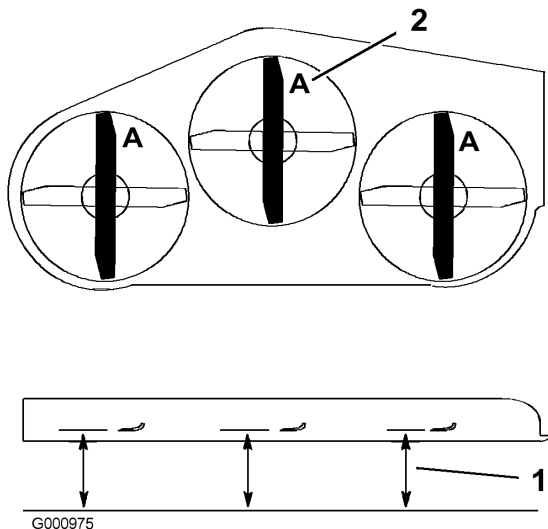

Figure 65
3. Rotate the blades until the ends face forward and backward (Figure 65). Measure from a level surface to the cutting edge, position **A**, of the blades (Figure 65). Note this dimension.